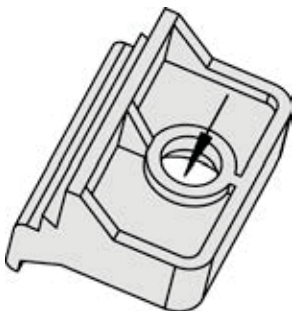

Fig. 12: Insert screws in clamps
3. ➤ Insert the four clamping screws into the clamp inserts from the shown side (Fig. 12; opposite the nut insert) until they are almost flush. Do not completely insert the screws into the clamp inserts.